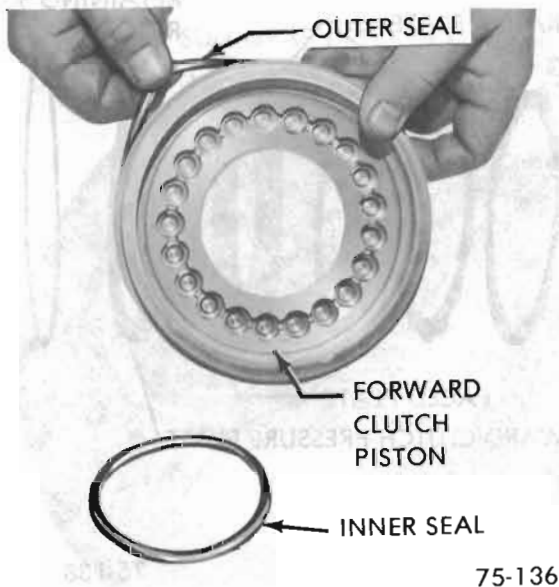

Figure 75-189
8. Remove forward clutch piston inner and outer seals. See Figure 75-189.
1. Install the forward clutch inner piston seal and outer piston seal. See Figure 75-189.